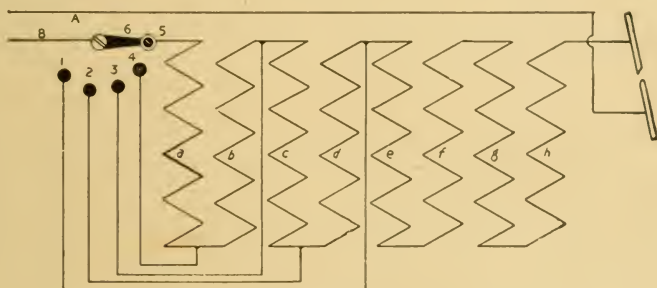

FIGURE 12
(55) Rheostats may be had with fixed resistance, or with resistance that may be adjusted, within certain fixed limits, from time to time. Adjustable resistance is diagrammatically illustrated in Fig. 12, showing two binding posts, with certain resistance elements so connected that all or only a part may be used.